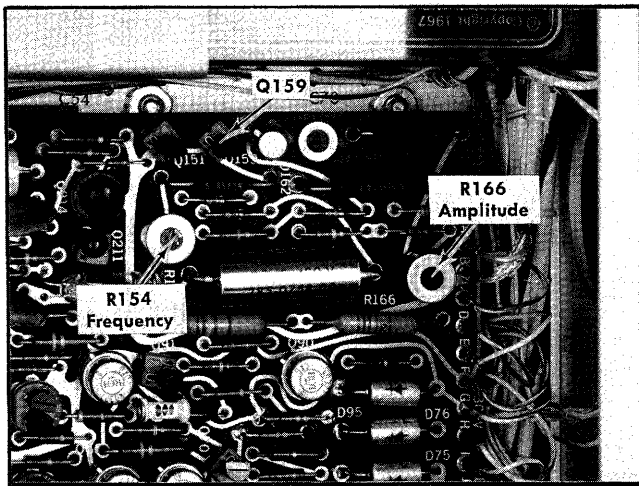
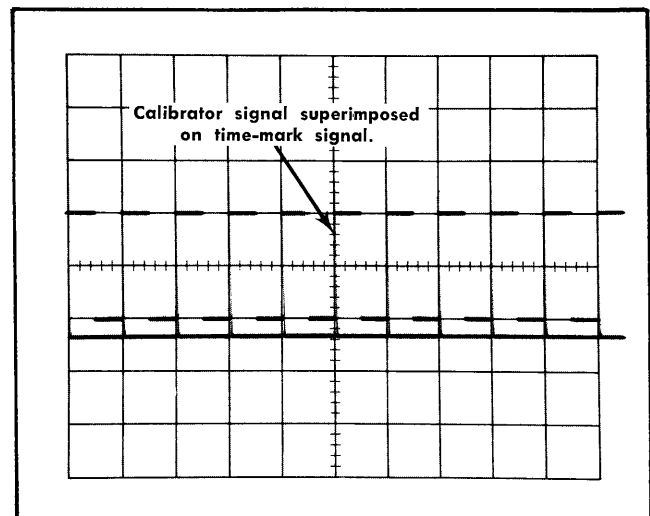

Fig. 5-16. Location of Calibrator controls.
Fig. 5-17. Typical CRT display showing correct calibrator repetition rate.
c. ADJUST—R166, Amplitude (Fig. 5-16) for a meter reading of exactly +40 volts.
d. Remove Q159 (Fig. 5-16) and check the remaining calibrator voltages as listed in Table 5-2. Connect a 50-ohm termination to the CAL OUT connector when checking the 0.2 V, 20 mV and 2 mV positions of the CALIBRATOR switch.
CHECK—One cycle of calibrator waveform for each marker (see Fig. 5-17). The error in 10 major divisions must be ≤ 0.5 minor divisions (the positive transition of the square wave at the right hand edge of the graticule must be no more than 0.5 minor division (1 mm) from the positive transition of the corresponding time marker). **Disconnect the time-mark generator and proceed to step 20.**
g. ADJUST—R154, Frequency (Fig. 5-16), for one cycle of calibrator waveform for each marker. See Fig. 5-17. (Since the sweep was calibrated in step f, the display should also be one cycle of calibrator waveform for each major division).